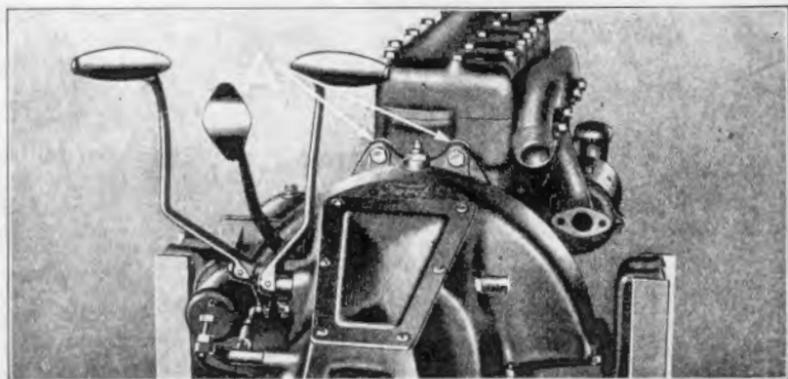

Fig. 552
- 1213 The new transmission cover is designed with an extension at the top of the cover behind which are placed steel shims as shown at "A" Fig. 552. This extension acts as an added support to the crankcase while the shims which are inserted between extension and cylinder block insure accurate alignment of the universal ball cap.